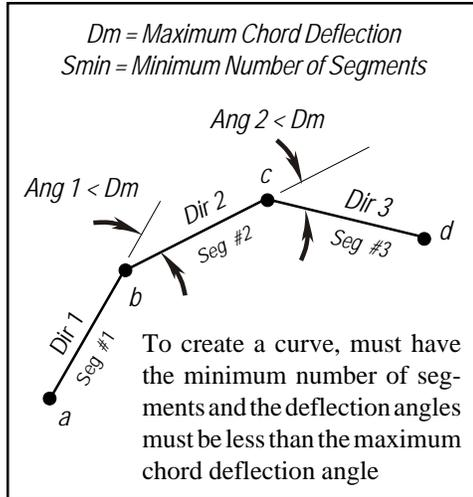

Figure 13 - Deflection Angle and Minimum Segments Parameters
- a. Shown in Figure 13 is a diagram illustrating how the Maximum Chord Deflection and Minimum Number of Segments parameters are used in establishing a curve.